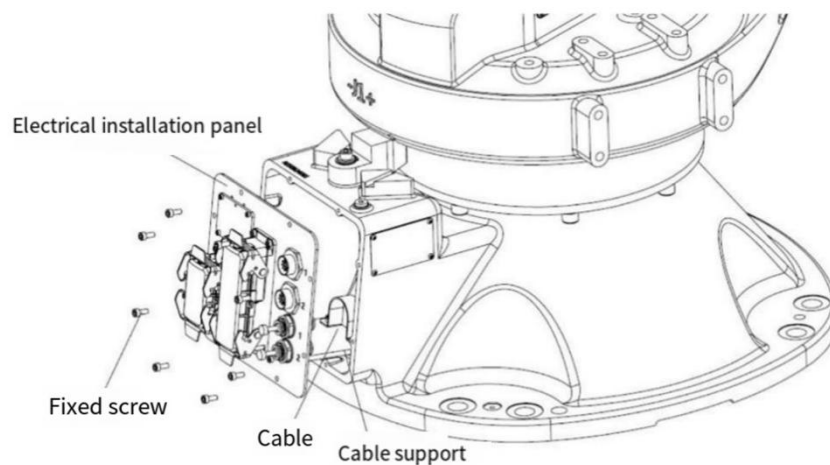

Figure 124: Internal cable layout of the RX3-A650-2260/RX3-A680-2260/RX3-A635-2700/RX3-A620-3100 bases
Step1、 Remove the electrical panel as shown in Figure 124 or Figure 125, then unplug the internal cables from the base.
Step8、 Insert the cable into the base while maintaining the U-shape as shown in Figures 124 and 125.